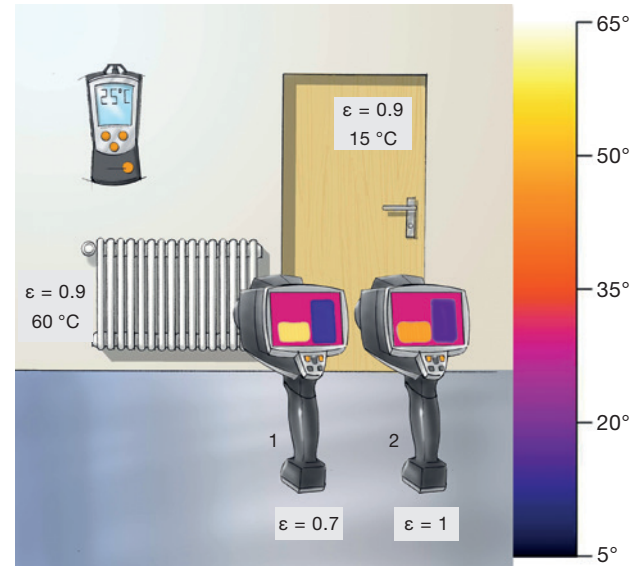

Figure 1.2: Effects of an incorrect emissivity setting on the temperature measurement
1. Where the temperatures of the measuring object are higher than the ambient temperature (cf. heater in Fig. 1.2, $<?>$):
2. Where the temperatures of the measuring object are lower than the ambient temperature (cf. doors in Fig. 1.2, $p.<?>$):
As well as the emissivity setting (ϵ), you should also factor in the reflected temperature (RTC) setting, so that your thermal imager can calculate the temperature of the surface of the measuring object correctly. In many measurement applications, the reflected temperature corresponds to the ambient temperature (cf. “2. Radiation”, p. 19). You can determine this with an air thermometer, e.g. testo 810. An accurate setting of the emissivity is particularly important where there is a large temperature difference between the measuring object and the measuring environment (cf. Fig. 1.2, p. <?>).